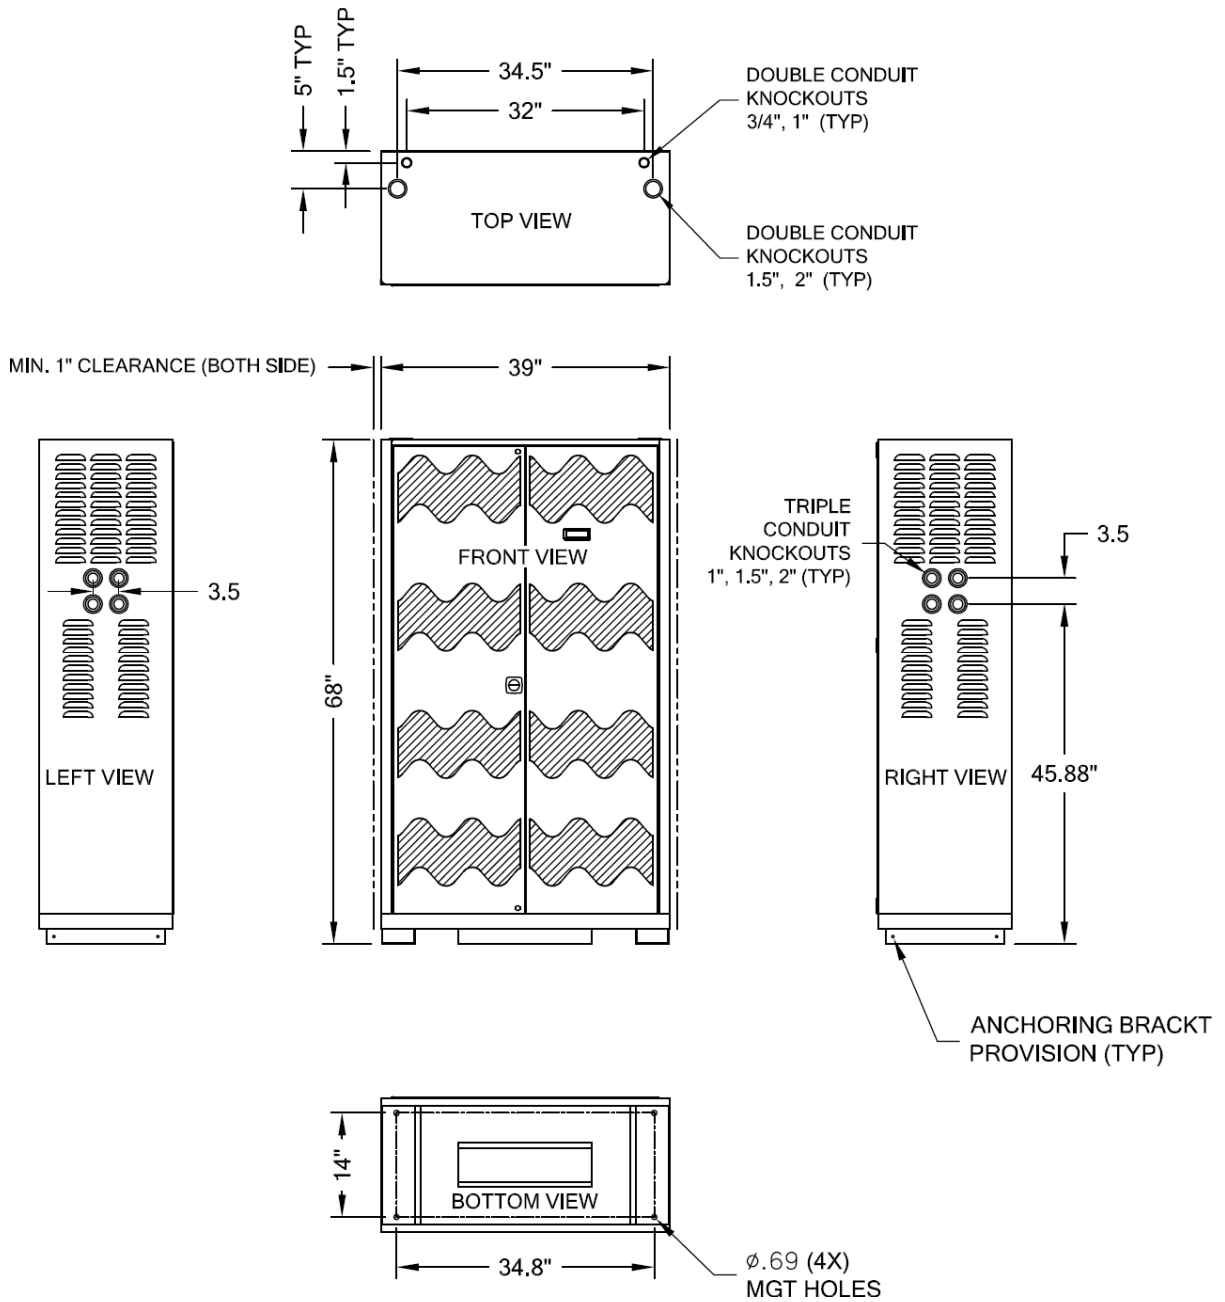
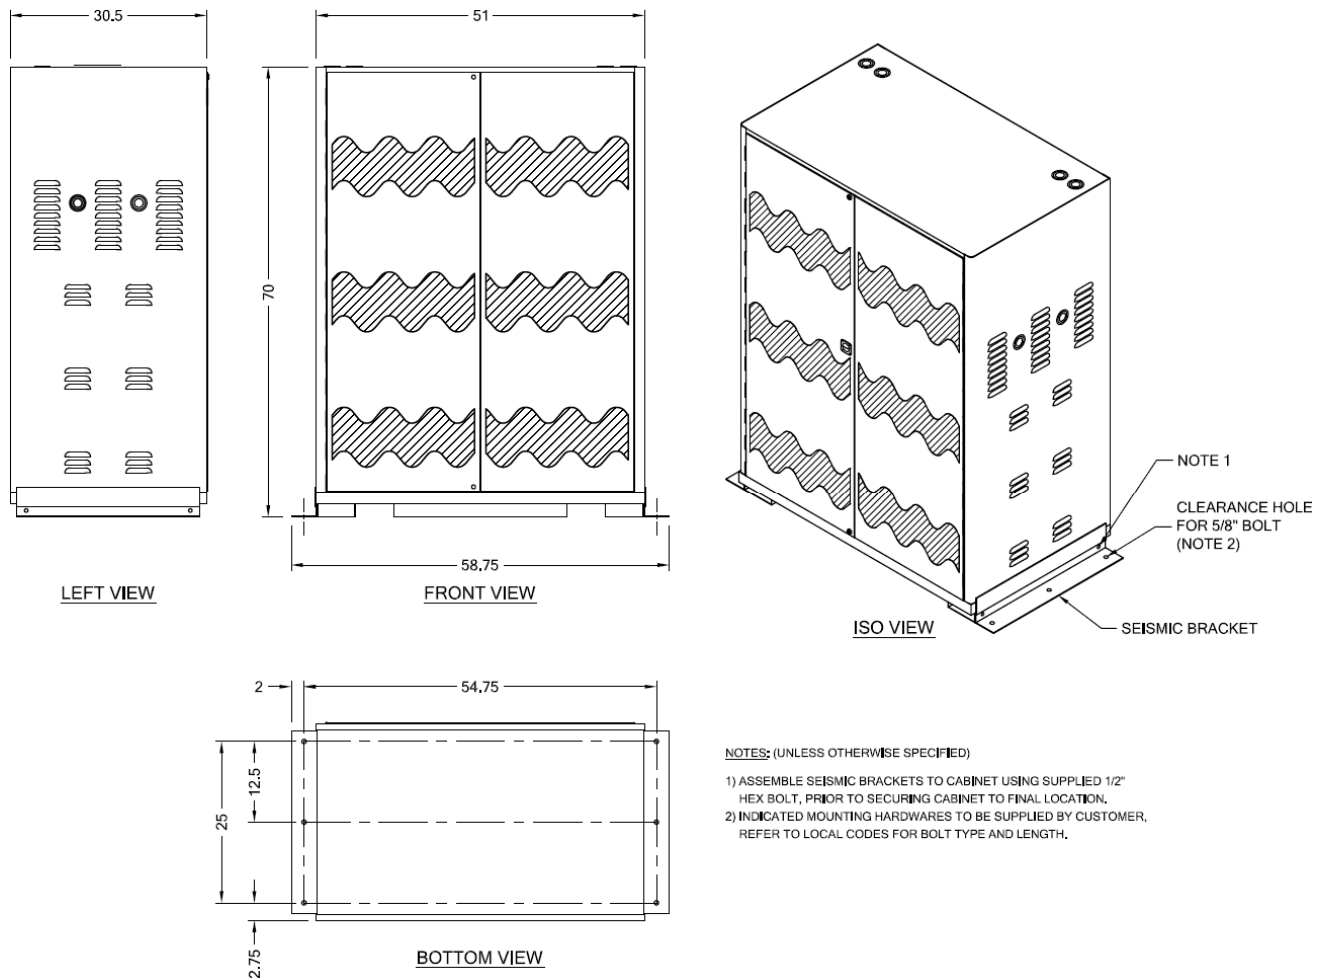

Figure 4-1. 6KW, 8KW Cabinet Mounting
Figure 4-4. 10KW, 15KW, 17KW Cabinet Mounting (with Optional Zone 4 Seismic Brackets)
5. **Anchor the cabinet to the mounting pad at the four mounting locations (see Figure 4-1 to Figure 4-4)**